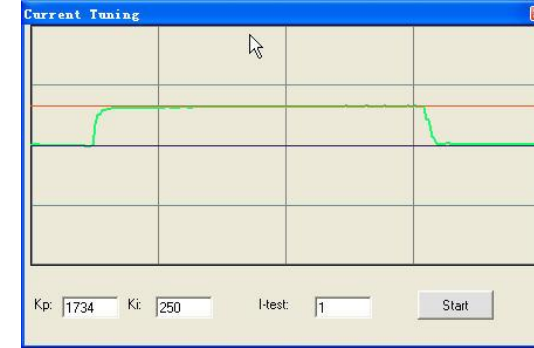
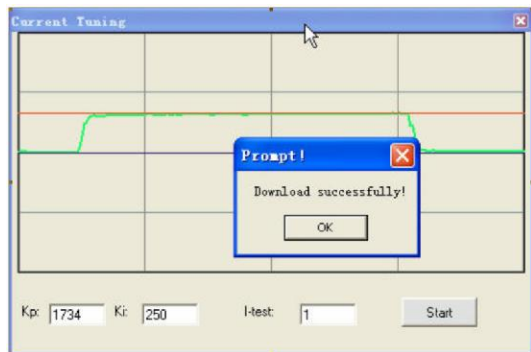

Figure 22: Current Tuning window
Figure 24: Finish tuning and save setting to the driver
**Start button:** The user can start a Step Response test by clicking this button. Start/Restart a Step Response test to get an optimum response like Figure 22, and remember to save the settings to the driver when finish tuning. See Figure 24.